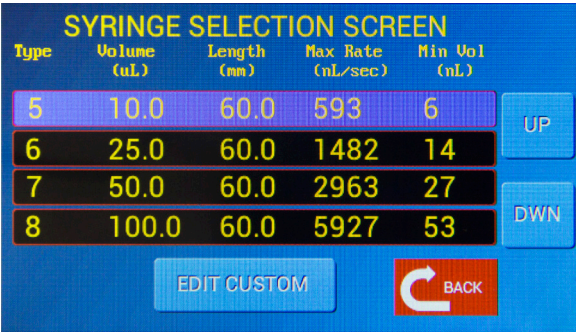

Fig. 30—You can define custom syringes using the Syringe Selection screen. Select one of the three user-defined syringe types-A, B or C.
- b. Use the four white navigation buttons (*Slow Withdraw*, *Fast Withdraw*, *Fast Infuse*, *Slow Infuse*) on the Custom Syringe Definition screen (Fig. 30) to place the syringe plunger at the fully withdrawn position where the syringe scale reads its maximum value.